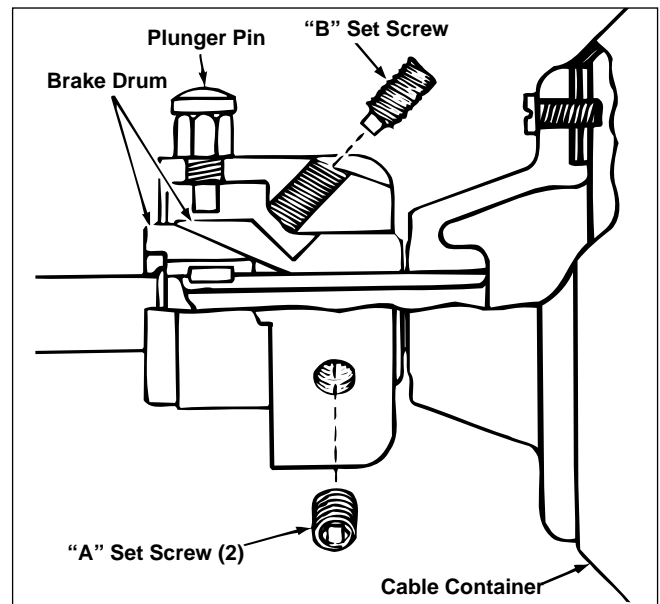

Figure 9 – Cable Adapter
4. Slightly loosen two set screws "A" using a $\frac{5}{32}$ " hex wrench (*Figure 9*).
5. Turn set screw "B" clockwise $\frac{1}{4}$ turn (*Figure 9*).